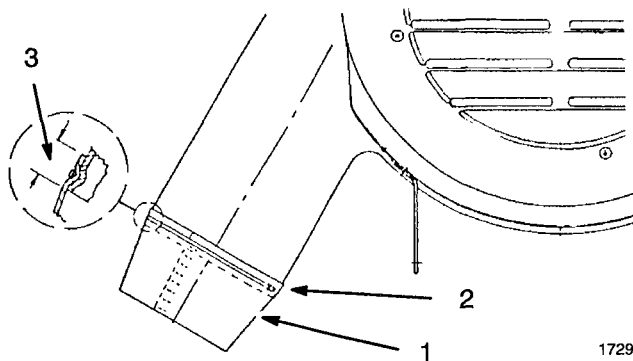

Figure 15
3. Slide large opening of seal over inlet of top assembly (Fig. 15). Place seam to the bottom and overlap seal 1 in. onto top.
4. Secure with tie strap over seal in groove of top assembly inlet. Pull tie strap tight and cut off loose end (Fig. 15).